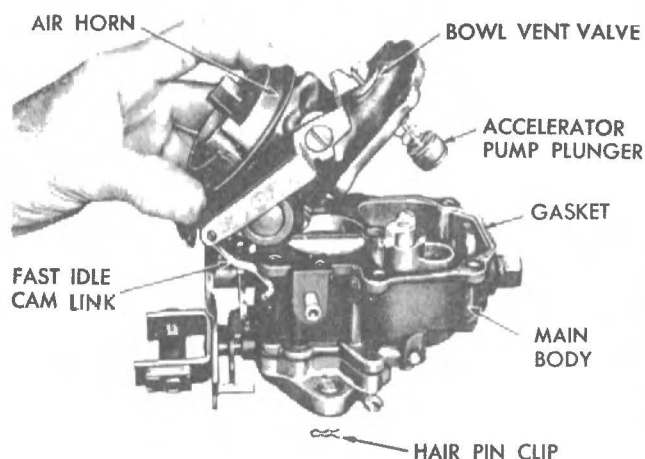

Fig. 3 - Removing or Installing Air Horn.
(6) Remove the air horn retaining screws.
(7) Tilt the air horn toward the throttle lever far enough to disengage the fast idle cam link from the fast idle cam, as shown in (Fig. 3). Lift air horn up and away from main body. Discard the gasket.
(8) Disengage the accelerator pump plunger from the rocker arm, by pushing up on the bottom of the plunger and sliding plunger shaft off hook. Slide plunger out of air horn and remove bowl vent valve, spring seat and spring. If the old plunger can be used again, or if a new plunger is to be installed, place the plunger in a jar of clean gasoline or kerosene to prevent the leather from drying out.
(9) Lift out the float fulcrum pin retainer, then lift out the floats and fulcrum pin.
(10) Remove the fuel inlet needle valve, seat and gasket from the main body.